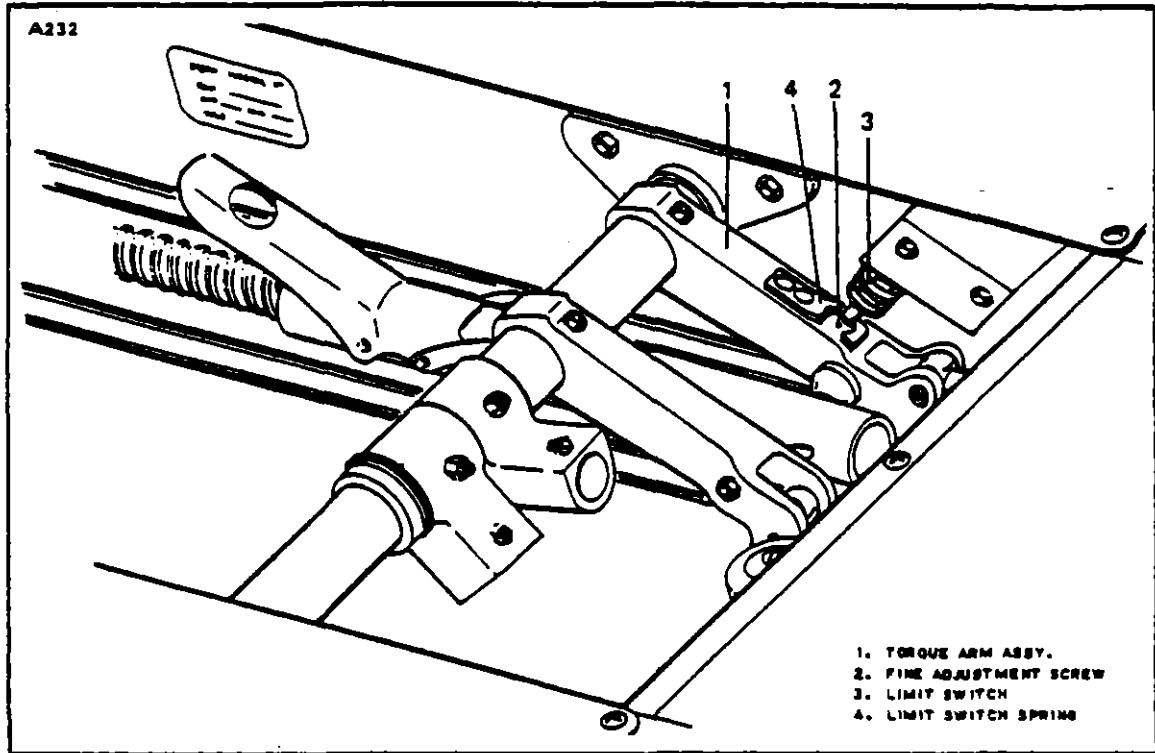
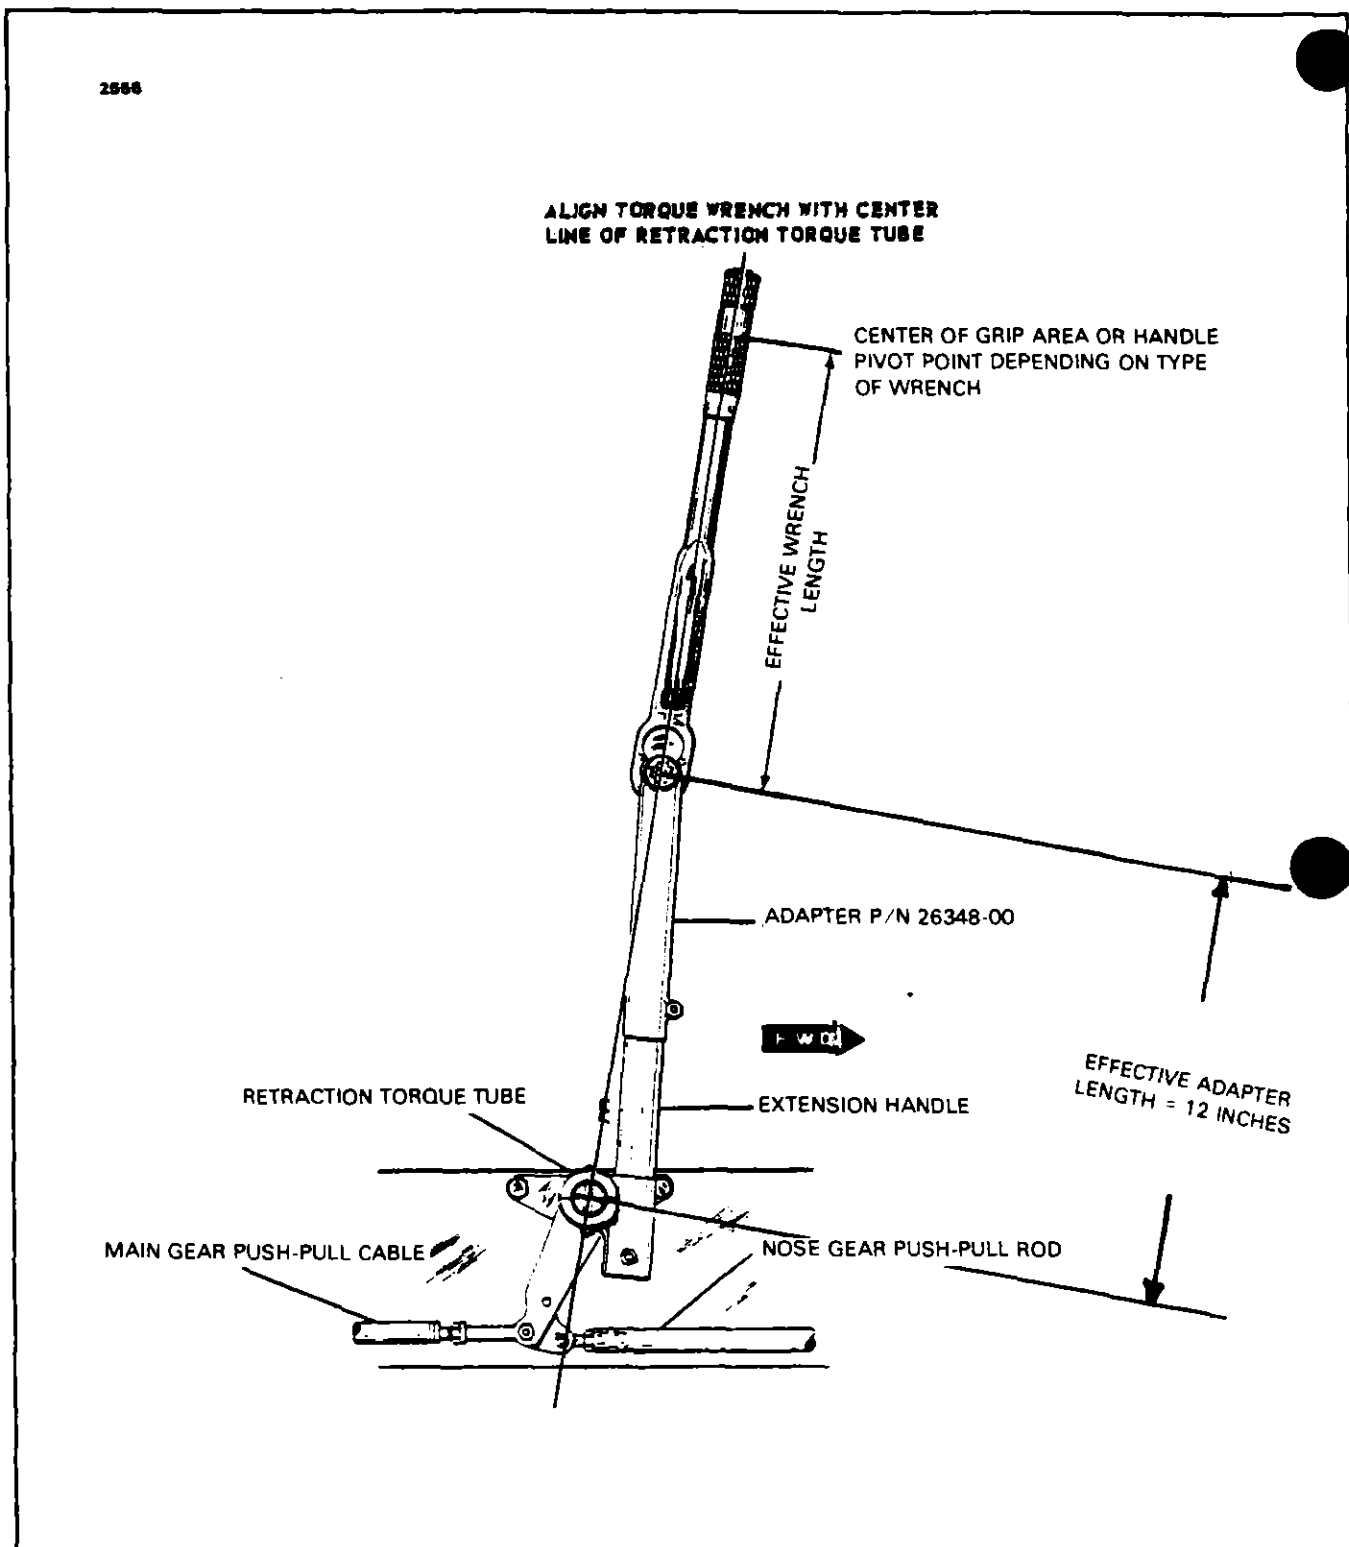

FIGURE 6-16. LANDING GEAR UP LIMIT SWITCH
Figure 6-19 Torque Wrench and Adapter Installation
- 1. Retract the gear and check to insure that both main gear assemblies enter the wheel well approximately the same distance and that the nose gear enters far enough (Refer to Figure 6-16.)
- 2. If the gear does not retract far enough, move the switch (3) up in its bracket and run the check again. On the late model airplanes, a set screw (2) is located in the left torque arm (1) for fine adjustment purposes.
**6-58. Checking Landing Gear Retraction Load.** (Refer to Figures 6-19 and 6-20.) After the landing gear has been lubricated and properly adjusted as described in the preceding paragraphs, check retraction load by using the following procedure:
- d. On airplanes with Serial Nos. 24-1 to 24-4782 inclusive and 24-4784 to 24-4803 inclusive, remove the red knob on the emergency extension lever and install adapter tool, P/N 26348, on the lever with attaching bolt forward. (Refer to Figure 6-19.)